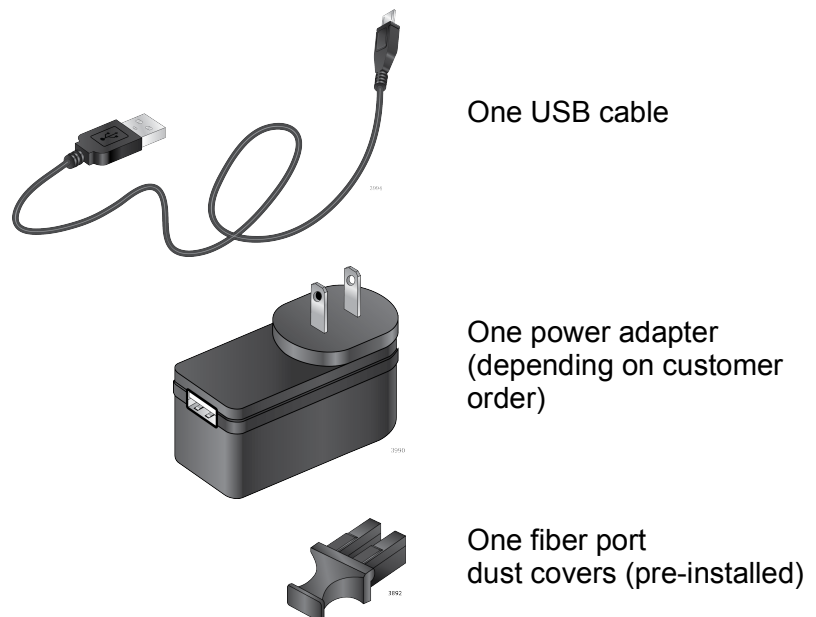

Figure 26. AT-DMC1000/LC and AT-DMC100/LC Shipping Package Contents
- Figure 26 shows shipping container items for the AT-DMC1000/LC and AT-DMC100/LC.